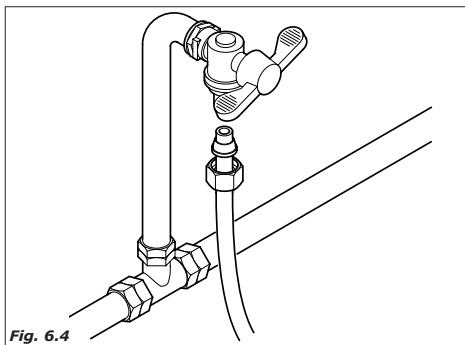

Fig. 6.4
- connect the cock to the distributor, using a pipe in nylon material suitable for food products and suitable for the mains pressure. In the event of the use of a flexible pipe it is necessary to fit the reinforcement bush supplied inside (Fig. 6.4).